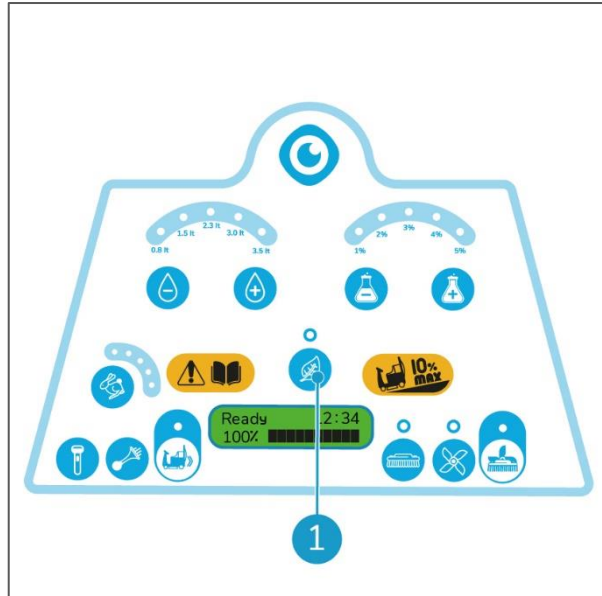

Figure 27
The ECO mode (Figure 27, pos 1) will slow down the machine as well as reduce the usage of water and solution. See section 2.1.